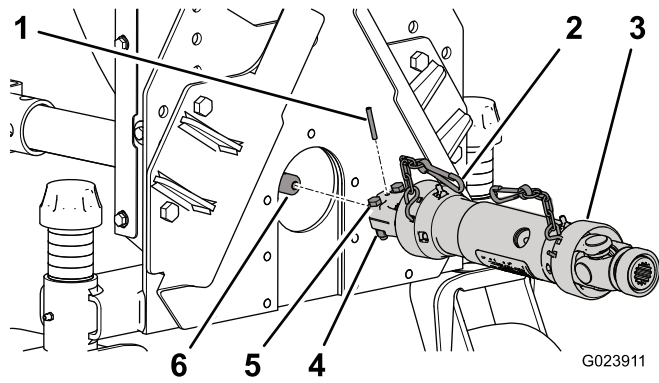

Figure 9
3. Secure them with a roll pin (Figure 9).
4. Secure the drive shaft to the gear box shaft with two 5/16 x 1-3/4 inch bolts and 5/16 inch lock nuts (Figure 9).
7. Secure the safety chain to blower frame (Figure 9).